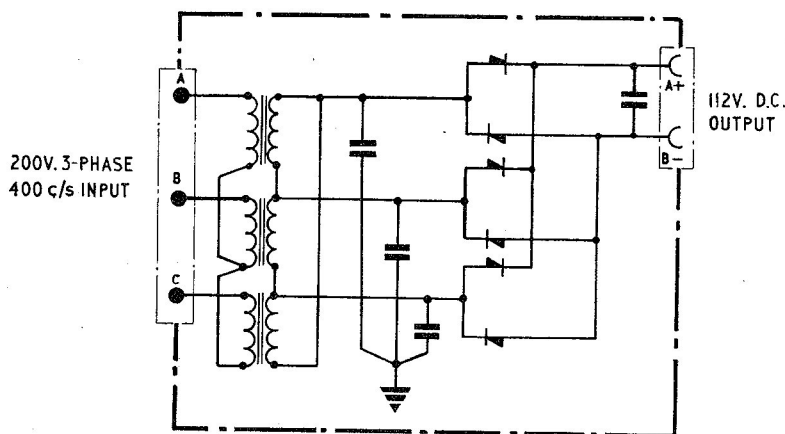

Fig. 2. Diagram of connections
4. Four mounting lugs, each with a 0.201 in. dia. hole on centres 4.38×2.94 in. are provided for fixing the unit. A diagram of connections is shown in fig. 2. The 3-phase a.c. input is taken to the 3-pole plug (Ref. No. Z560060) and the d.c. output is taken from the 2-pole socket (Ref. No. Z560230).